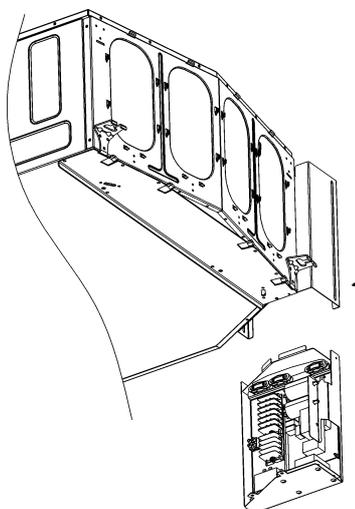

Fig. 29. Taking the box off the rail
3. If necessary, take the box off the rail by removing the screw (see Fig.29 ).